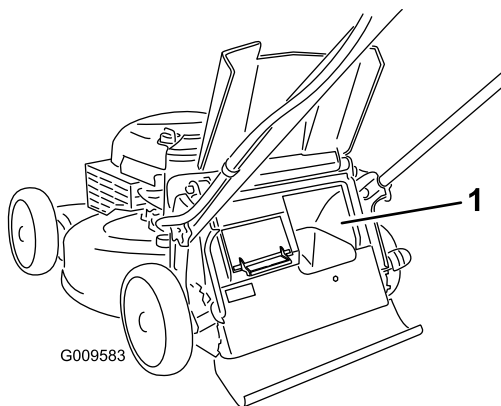

Figure 22
**Important:** For proper operation, shut off the engine, wait for all moving parts to stop, and then remove any grass clippings and debris from the bag-on-demand door and the surrounding opening (Figure 22) before you move the bag-on-demand lever from 1 position to another.